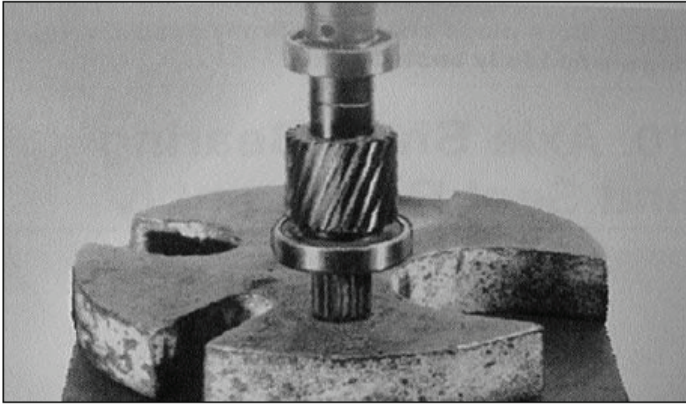

Figure 7-25. Installing Bearings on Input Shaft
1. Prior to installing, wipe new O-rings with SAE 30 weight oil. Install one O-ring (14) into outer input shaft (12) bearing bore. Install two O-rings (14) into intermediate shaft (9) bearing bores and two O-rings (10) onto intermediate shaft and gear assembly.
2. Press inner and outer bearings (13, 15) on input shaft (12) until seated against bearing shoulders (Figure 7-25).
3. Install new O-ring (14) into bearing bore of input shaft (12).